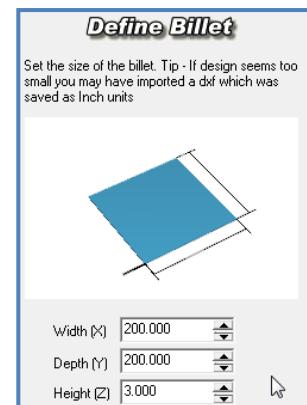

Figure 13
- Set the Billet size to 200 x 200 x 3 (Figure 13).